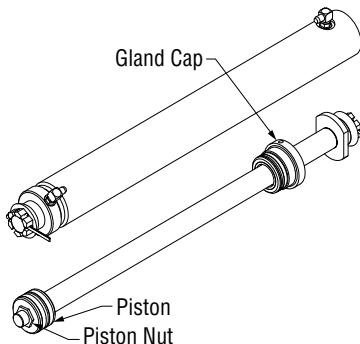

Figure 5-4, Cylinder Parts
3. Use a spanner wrench or similar tool to unscrew the gland cap from the cylinder tube. (Figure 5-4)